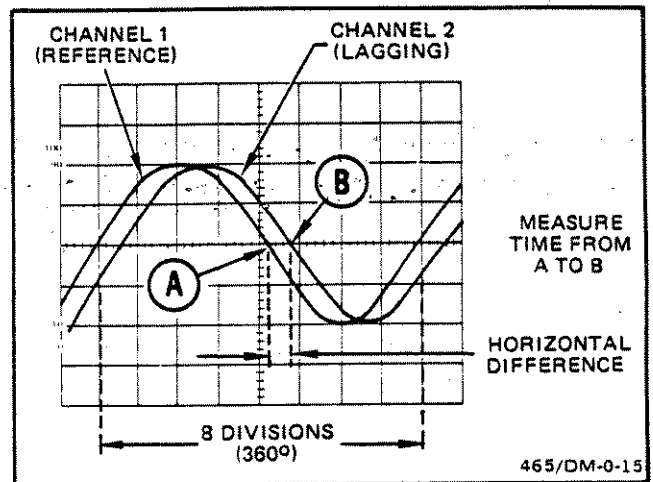
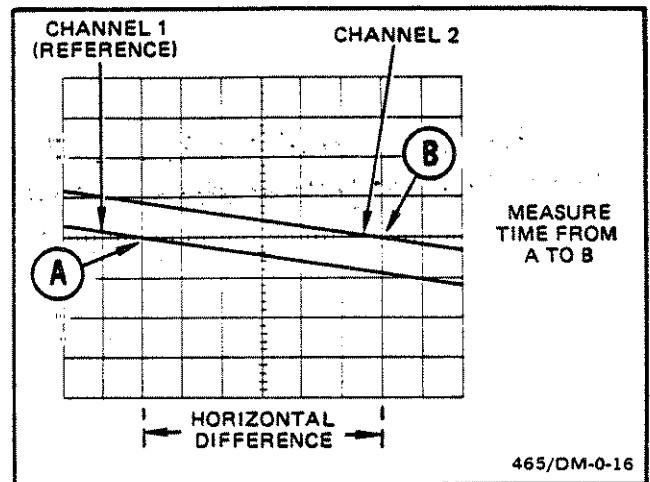

Figure 21. Phase difference.
Figure 22. High resolution phase difference.
7. Set the TIME/DIV switch to show about one cycle of the waveform. Position the display and adjust the VAR TIME/DIV control to place one reference signal cycle in exactly eight divisions at the 50% risetime points (see Figure 21). Each division of the graticule now represents 45° of the cycle ($360^\circ \div 8$ divisions) and the sweep rate can be stated as $45^\circ/\text{division}$.
EXAMPLE: The horizontal difference is 0.6 division with a sweep rate of $45^\circ/\text{division}$ as shown in Figure 21.
More accurate phase measurements can be made by using the X10 MAG mode to increase the sweep rate without changing the VAR TIME/DIV control (see Figure 22).
EXAMPLE: If the sweep rate were increased 10 times with the magnifier (X10 MAG), the magnified sweep rate would be $45 \div 10 = 4.5^\circ/\text{division}$. Figure 22 shows the same signals used in Figure 21, but the X10 MAG push button is depressed, resulting in a horizontal difference of 6 divisions. The phase difference is: